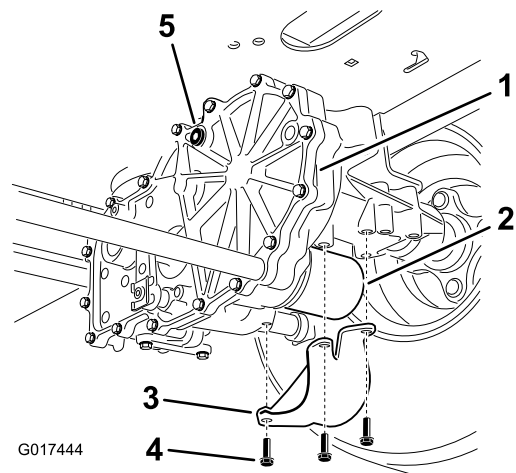

Figure 71
2. Locate the filter and guards on each transaxle drive system (Figure 71). Remove three screws securing the filter guard and guard.